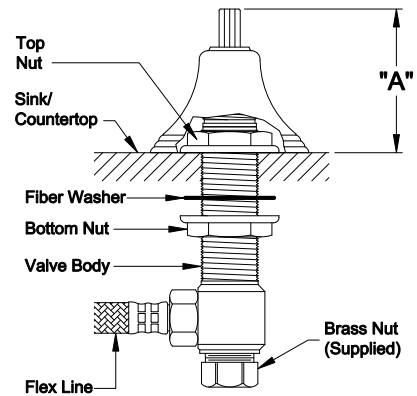

Fig. 4A
- Insert valve through hole from below and install top nut (if applicable), and adjust to proper height, see Fig. 4A (also refer to "A" dimension table on page 1).
The trim to those products do not require a top nut to be installed on the valve (See Fig. 4A)